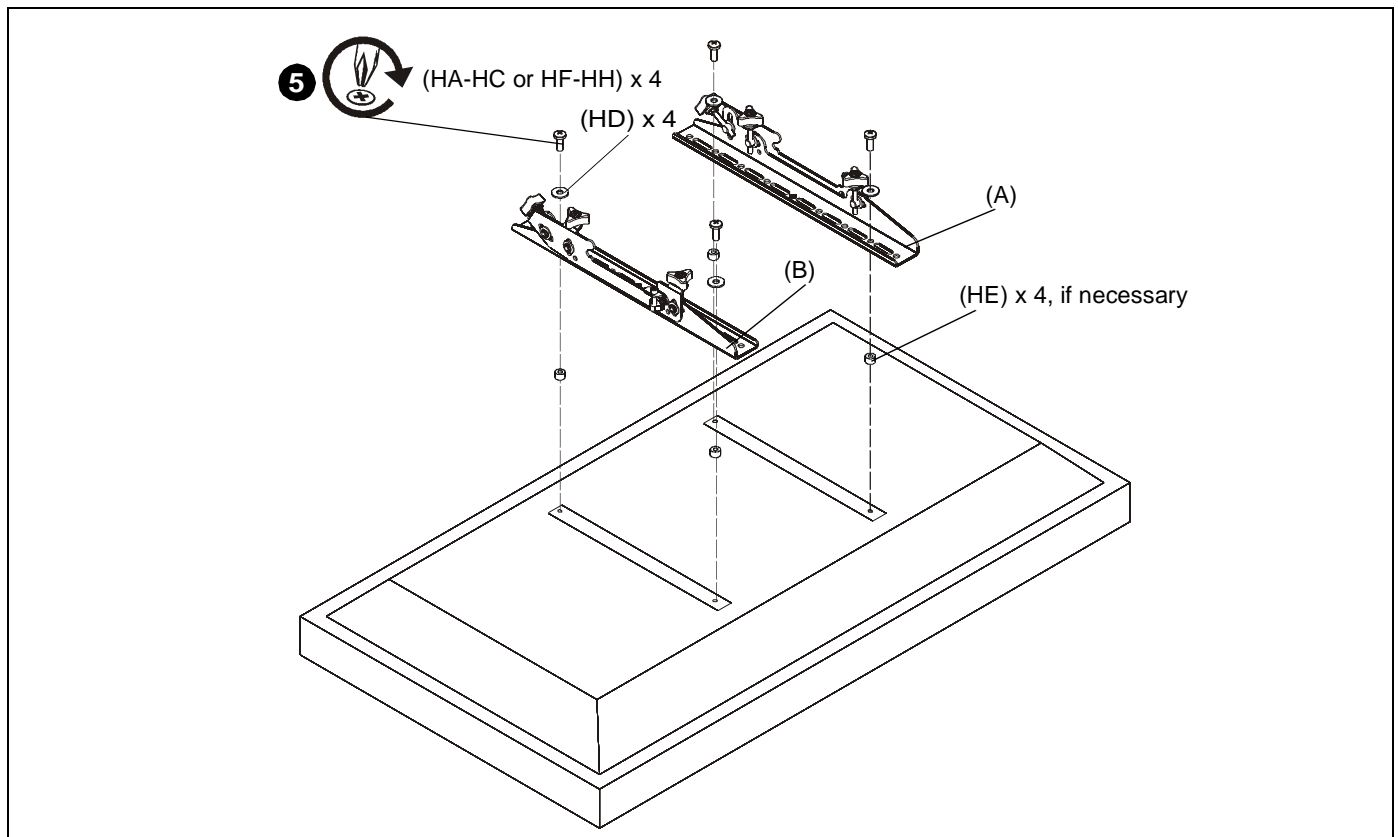

Figure 3
2. Select screw *diameter* by examining hardware (HA-HC and HF-HH) (6mm or 8mm) and comparing with mounting holes on display. (See Figure 3)
- If mounting holes are recessed, or if protrusions prevent brackets (A and B) from laying flat, then spacers (HE) must be used.
4. Select screw *length*: (See Figure 3)
- Using your hand, insert **SHORTEST** length screw of selected diameter (HA or HF) through 1/4" washer (HD), bracket (A or B), selected spacer (HE, if required), into display mounting hole. Do **NOT** thread screw into hole at this time.
5. Use selected screws (HA-HC or HF-HH), washers (HD) and spacers (HE), if necessary, to connect interface brackets (A and B) to back of display. Make sure diamond on interface brackets is even with center of display. (See Figure 3)